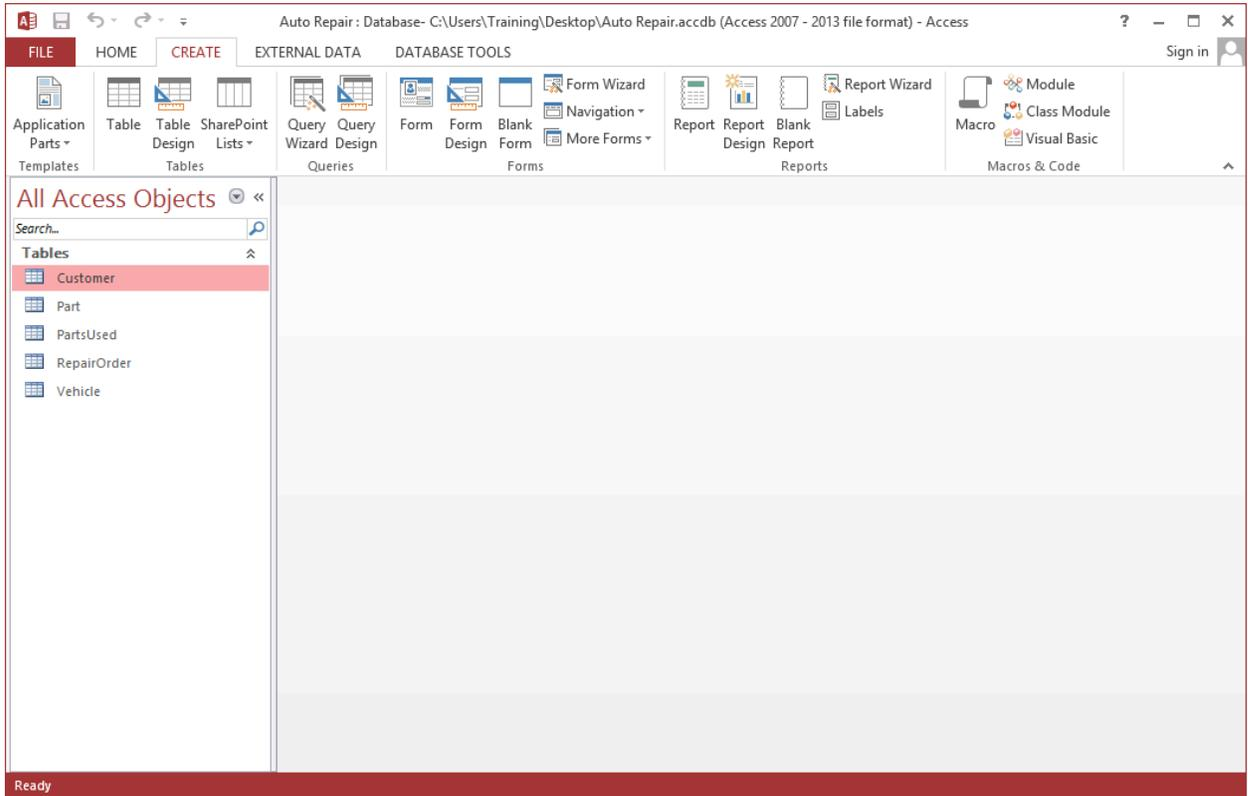
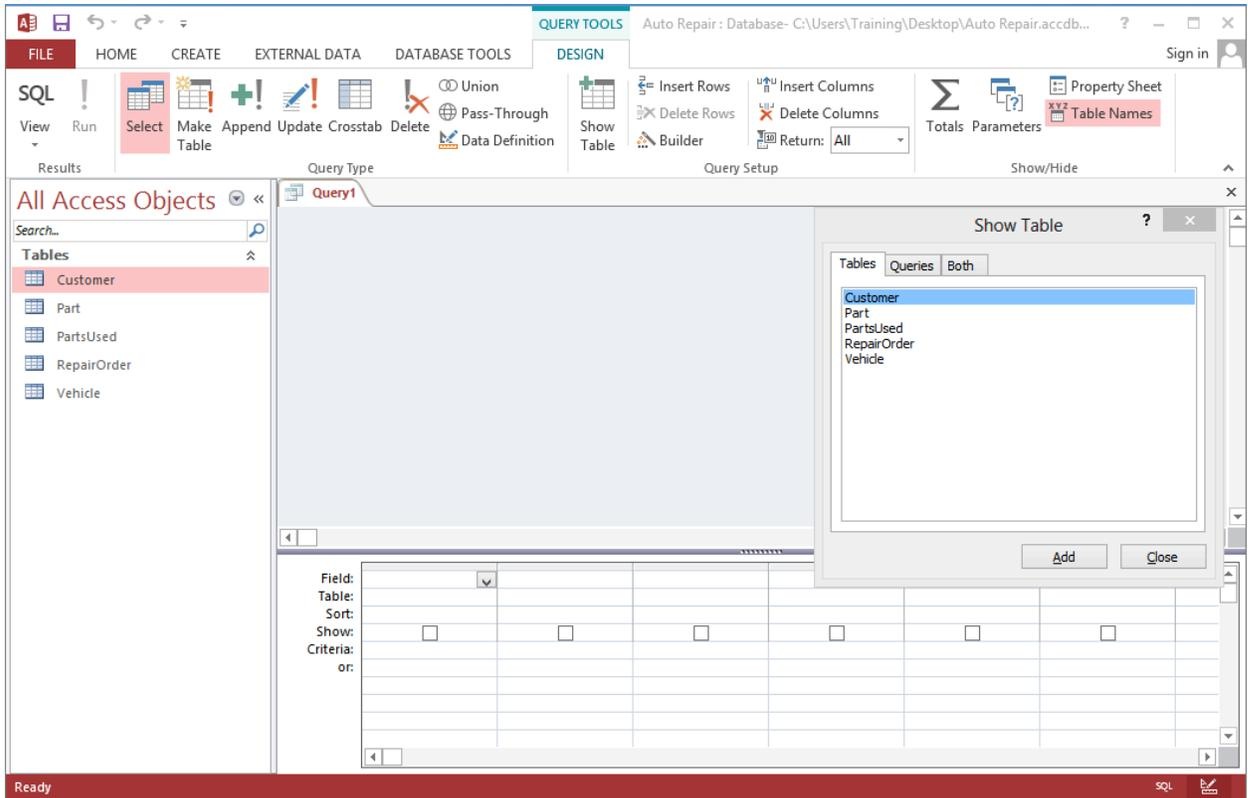
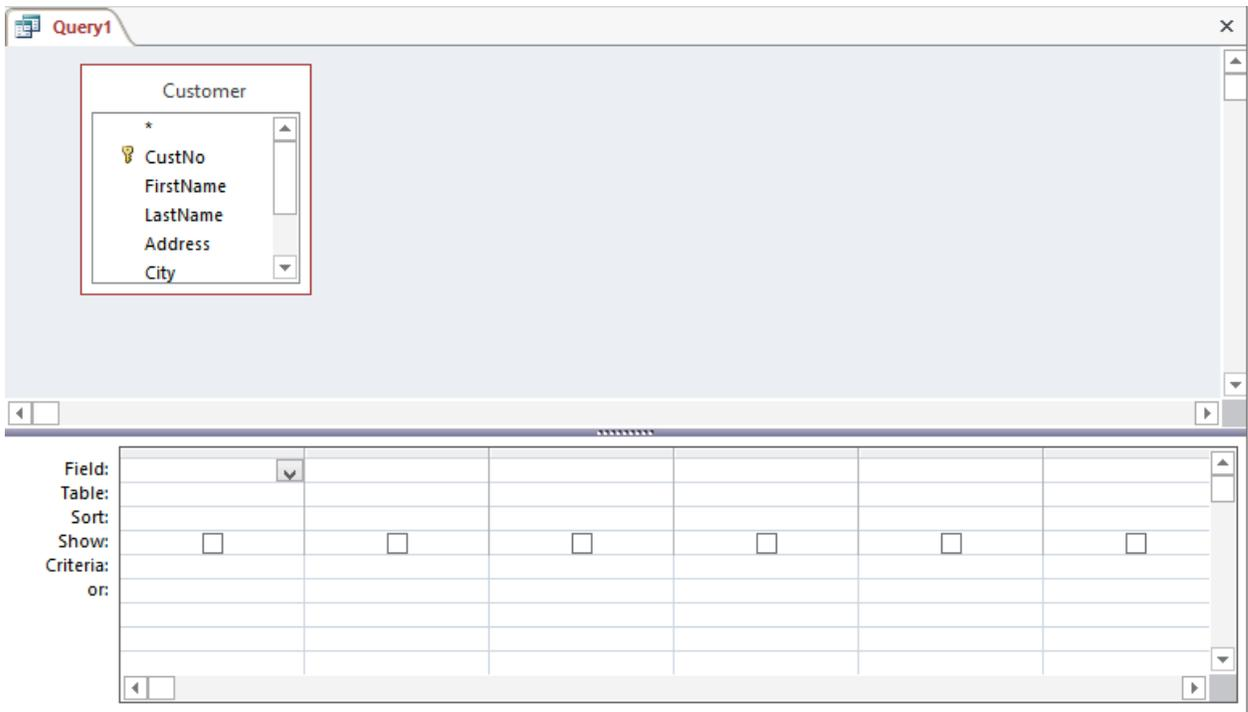

Figure 1: Navigation Pane with Empty View Pane
Figure 2: Query Design Pane and Show Table Window
Figure 3: Query Design Area with *Customer* Table
1. **Open the Auto Repair Database:** Start Access and open the auto repair database (AutoRepair.accdb) that you created in Chapter 2. The navigation pane should show the tables that you created in Chapter 2 (Figure 1). Choose **Create** → **Query Design** in the Queries group to open Query Design in the view pane (Figure 2).
2. Select a Table/Query: Query Design appears in the view pane with the Show Table window on top of it (Figure 2). You must select a table or existing query to include in the new query. Select the *Customer* table, click the **Add** button, and then click the **Close** button. Figure 3 shows the Query Design pane containing the *Customer* table.